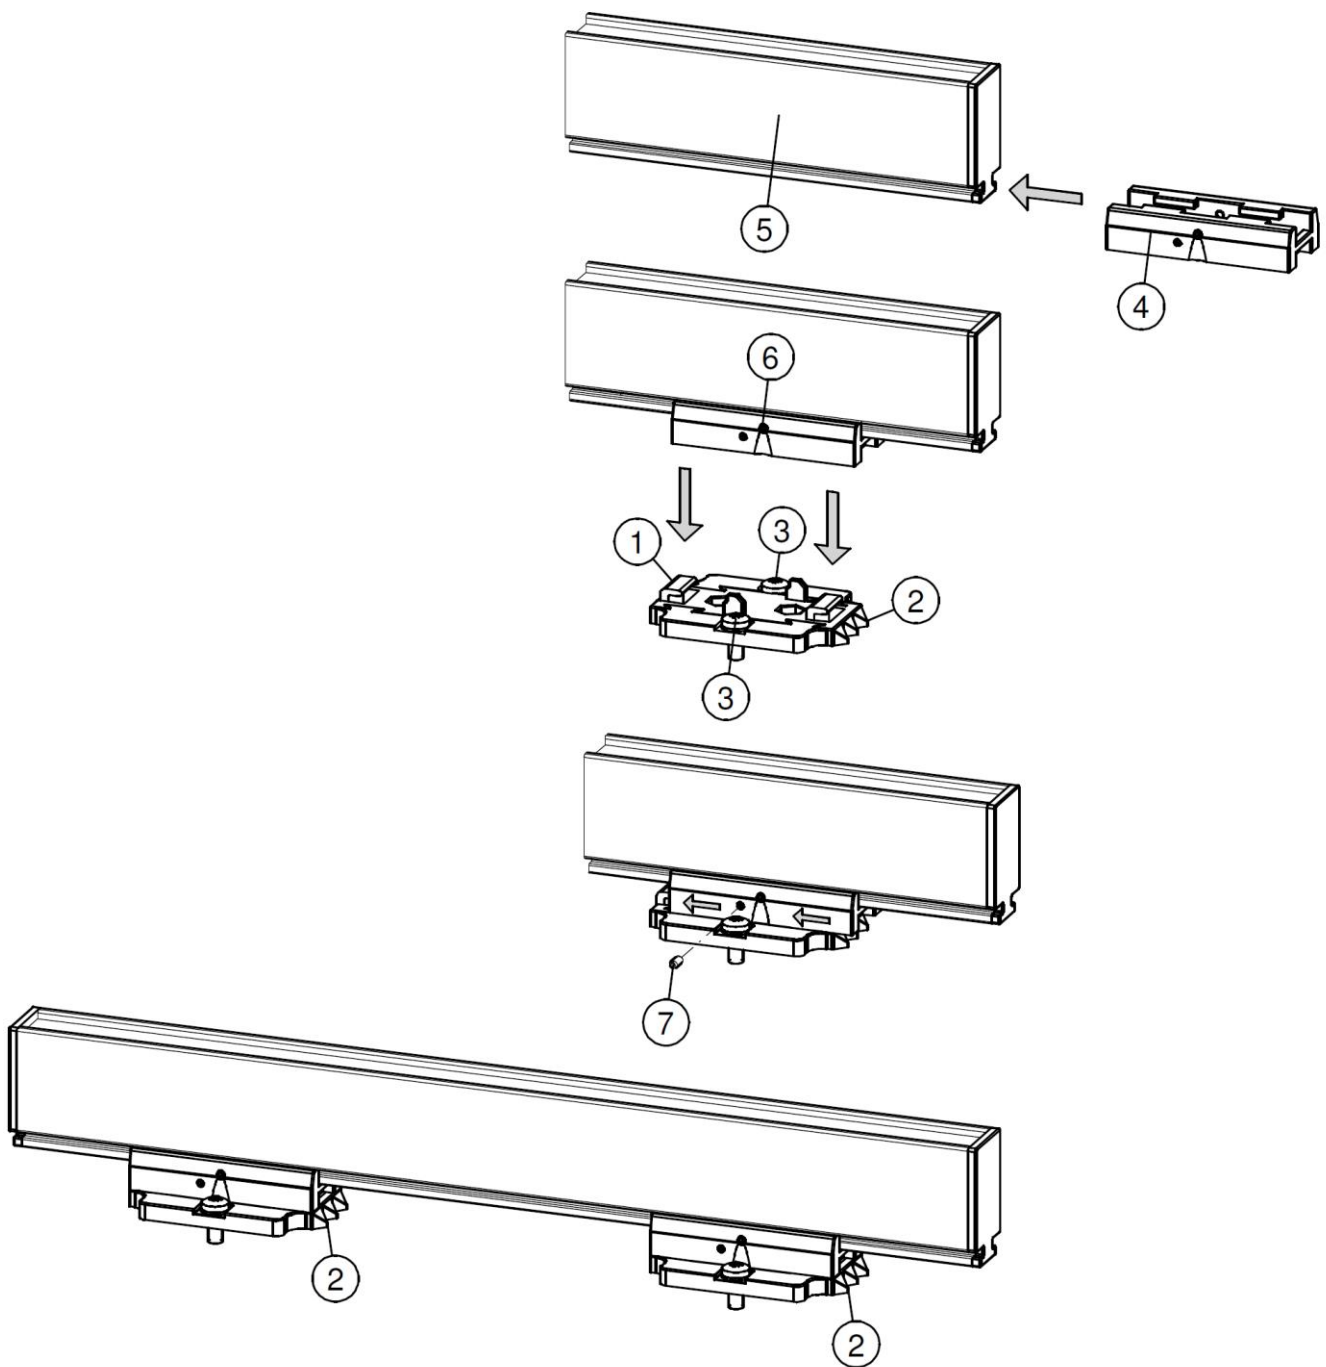

Figure 5: Fixing ionisation rod with mounting brackets (Figures EasION IQ 4.0?)
- Attach the mounting feet (1) to the machine. The triangles (2) have to point in the same direction. Use appropriate M5 mounting material (3) for mounting.
- Slide the brackets (4) onto the anti-static bar. Keep spacing(s) of the brackets (4) and mounting foot (1) equal and lock the bracket (2) with the set screw (6).
- Lock the anti-static bar in the mounting feet by screwing the two adjusting screws (7) into the brackets. With more than two brackets, only the two outer brackets need to be locked.
- Unscrew the adjustable screws (nr.6) from the brackets. (see figure 5).